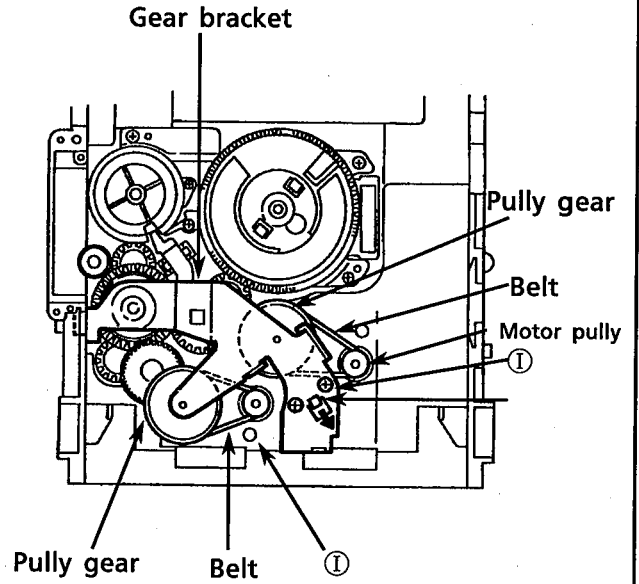

Fig. 23
(See Fig. 23.)
2. Press the pawl ㊟ securing the gear bracket to the arrow in the figure to remove the gear bracket. (See Fig. 23.)
4. Remove each belts from the both actuator motor pulleys and the pulley gears. (See Fig. 23.)